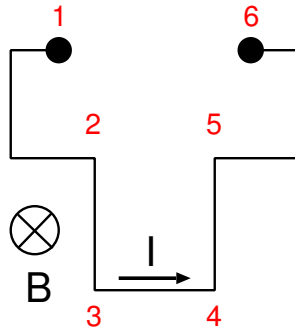

Figure 3: Current loop with connection points.
In this part of the lab you will investigate the magnetic force acting on a current carrying wire by observing the changes in a horseshoe magnet's weight ( $F_g = mg$ ). The current will flow through the prefabricated current "loops" as shown in Figure 3. Several current loops are available with different lengths of the 3-4 segment (see Table 1). Points 1 and 6 are connected to a DC power supply. If the magnetic field is in the direction show in the figure (going into the page), then the current in 3-4 segment of the loop should be in the direction shown to produce the desired direction of the force on the magnet assembly (more on this in the Procedure section). In this experiment we apply Newton's 3rd Law by observing the equal and opposite force on the field, rather than the force on the wire since we will be holding the wire rigid.
- Segments 2-3 and 4-5 of the current loop (see Fig 3.) are also within the magnetic field of the assembly. Why are we justified in ignoring the force acting on these segments?